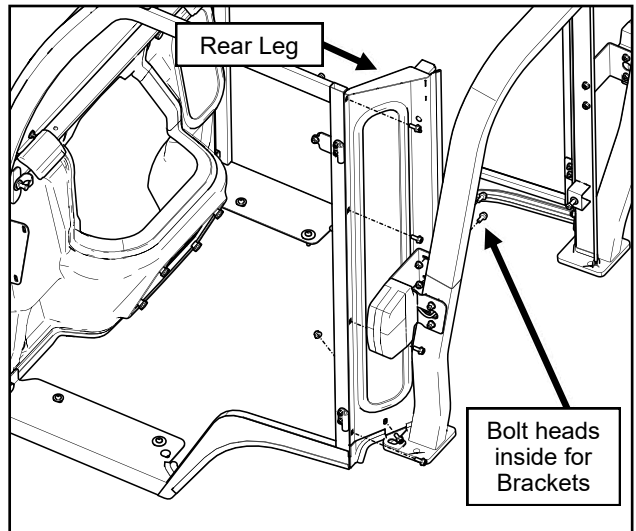

Fig. 10.1 (Rear Leg Installation)
10.1 With assistance, install the left side rear leg oriented as shown. See Fig. 10.1. Fasten to the side frame and ROPS brackets. Leave finger tight. Repeat for right rear leg.